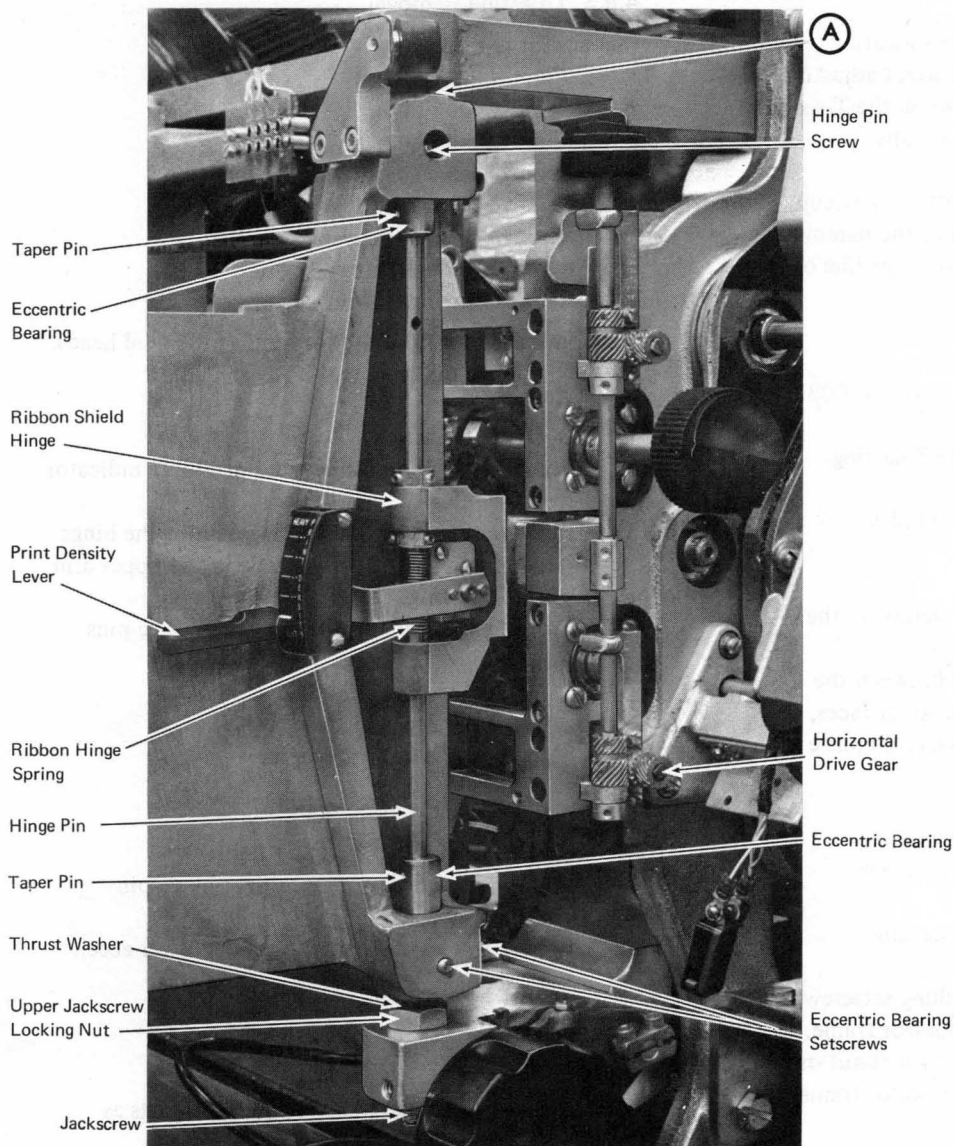

Figure 4-34. T-Casting (Hinge-Pin End)
- b. Loosen the lower jackscrew locknut on the lower right arm of the translator frame (Figure 4-34).
Remove the movable base (or remove the read head). Free the hinge pin (Figure 4-34).
2. Using feeler gauges, measure and record the clearance between the upper leg of the T-casting and the translator frame (A in Figure 4-34). This measurement is required for adjustment of the T-casting later on in step 7.